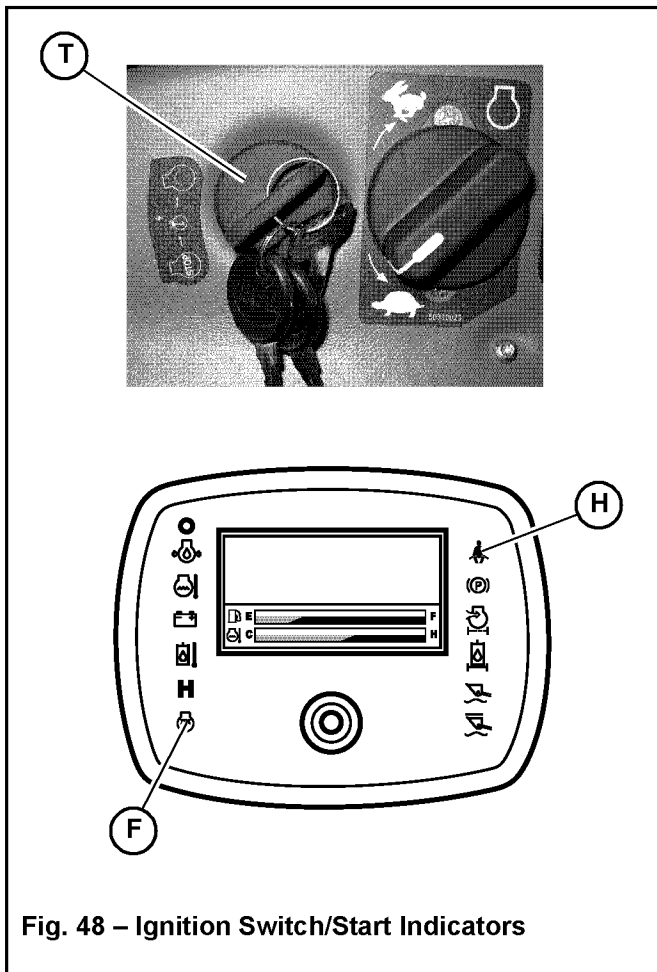

Fig. 48 – Ignition Switch/Start Indicators
6. Insert the ignition key into the ignition switch (T, Fig 48) and turn the key clockwise to the first detent. Wait for the multi-purpose display to initialize completely. Indicators on the multi-function display should light up; a beeping tone will sound for a few moments as a reminder to fasten the seat belt. The battery voltage and pre-heat indicators might stay lit for 3-30 seconds.
1. Check that charge (F, Fig 48) indicator goes out after the engine starts.